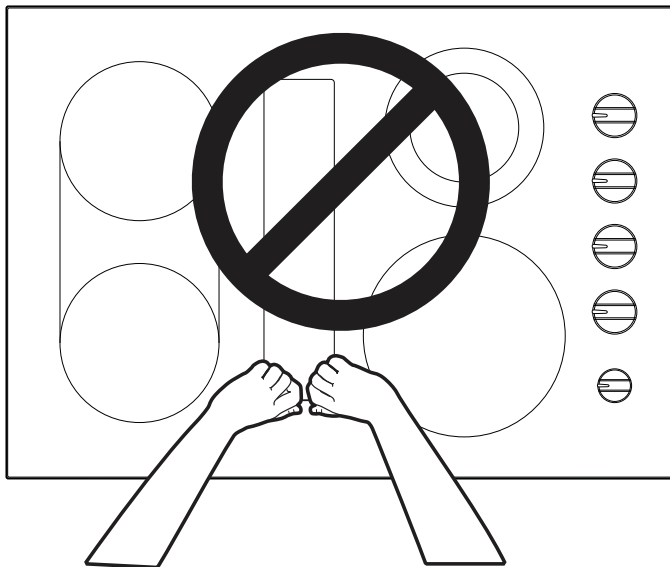

Figure 13 – DO NOT HANDLE THE COOKTOP BY THE VENT OPENING
**CAUTION** DO NOT use the glass top vent opening to lift or move the cooktop into position – glass breakage may occur (Figure 13).